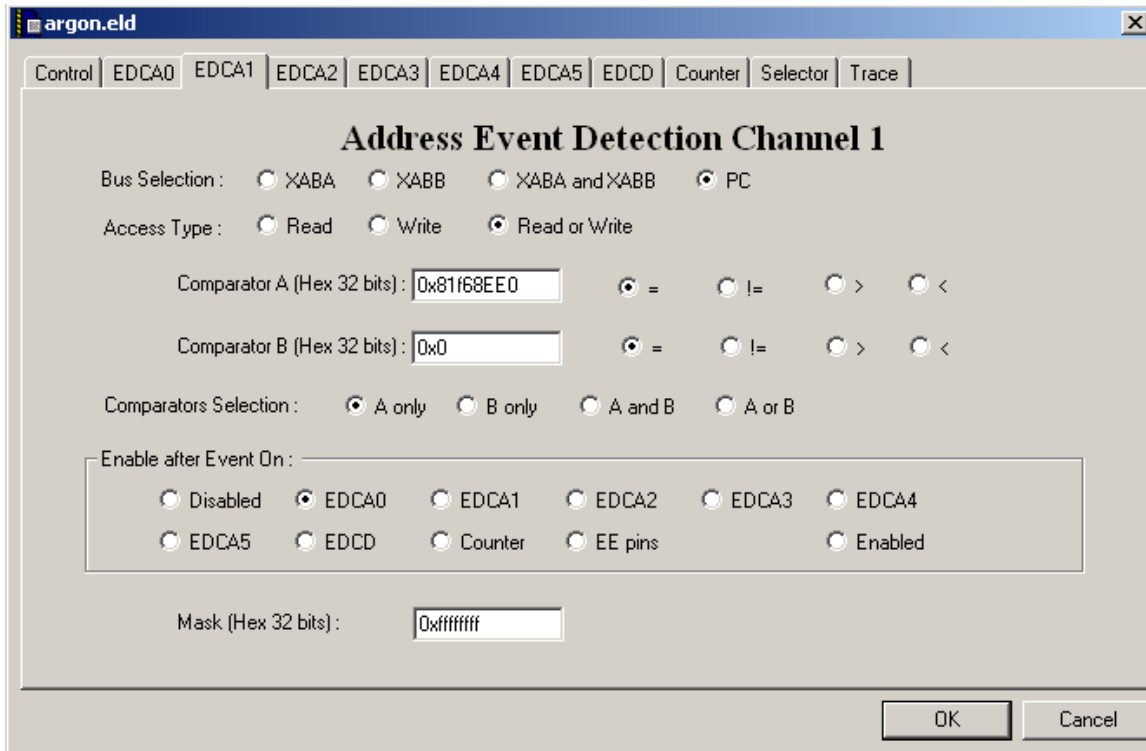

Figure 12: Trigger Setup for End of Trace Collection
- a. Setup EOnCE Event to be used to trigger end of tracing (see Figure 12: Trigger Setup for End of Trace Collection)
1. Note since this is the end of trace trigger this event can be set to be enabled only after EDCA0 occurs by selecting "EDCA0" as shown in Figure 12: Trigger Setup for End of Trace Collection
- b. Setup EOnCE Event EDCA0. This is the event we will be counted so it should be somewhere that is reached multiple times such as inside a loop, or a function which is called from many places (see Figure 12: Trigger Setup for End of Trace Collection)